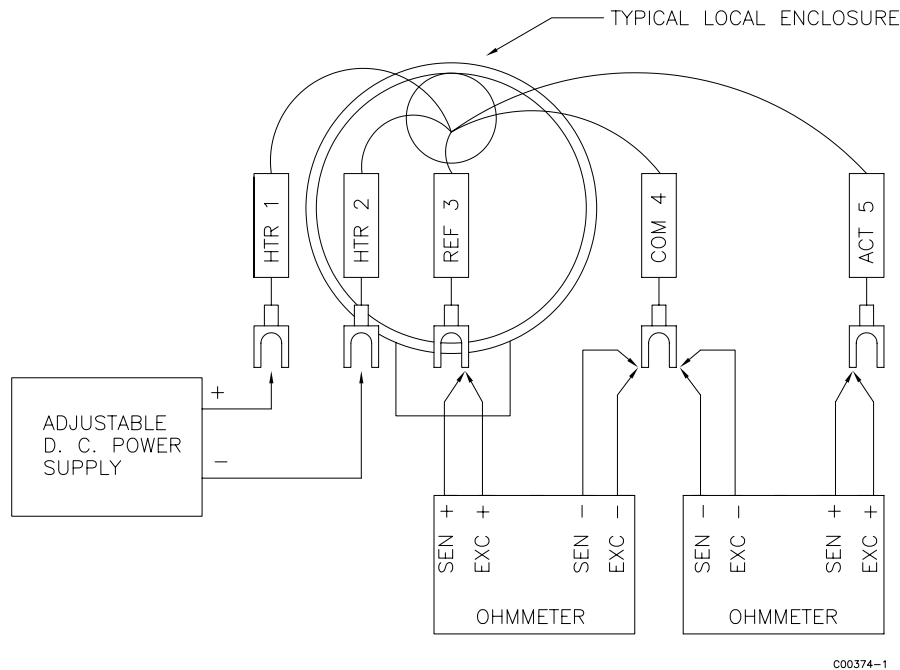

Figure D-1. Sensing Element Calibration Connections
4. Connect the DMM's and the power supply to the sensing element as shown in Figure D-1.
7. Record the resistance values of the sensing elements and calculate the resistance differential (DR). If DR does not exceed the maximum DR of 280 ohms then proceed with the calibration. If the DR is above 280 ohms use the next lower heater wattage setting and let the instrument stabilize. Recheck the DR